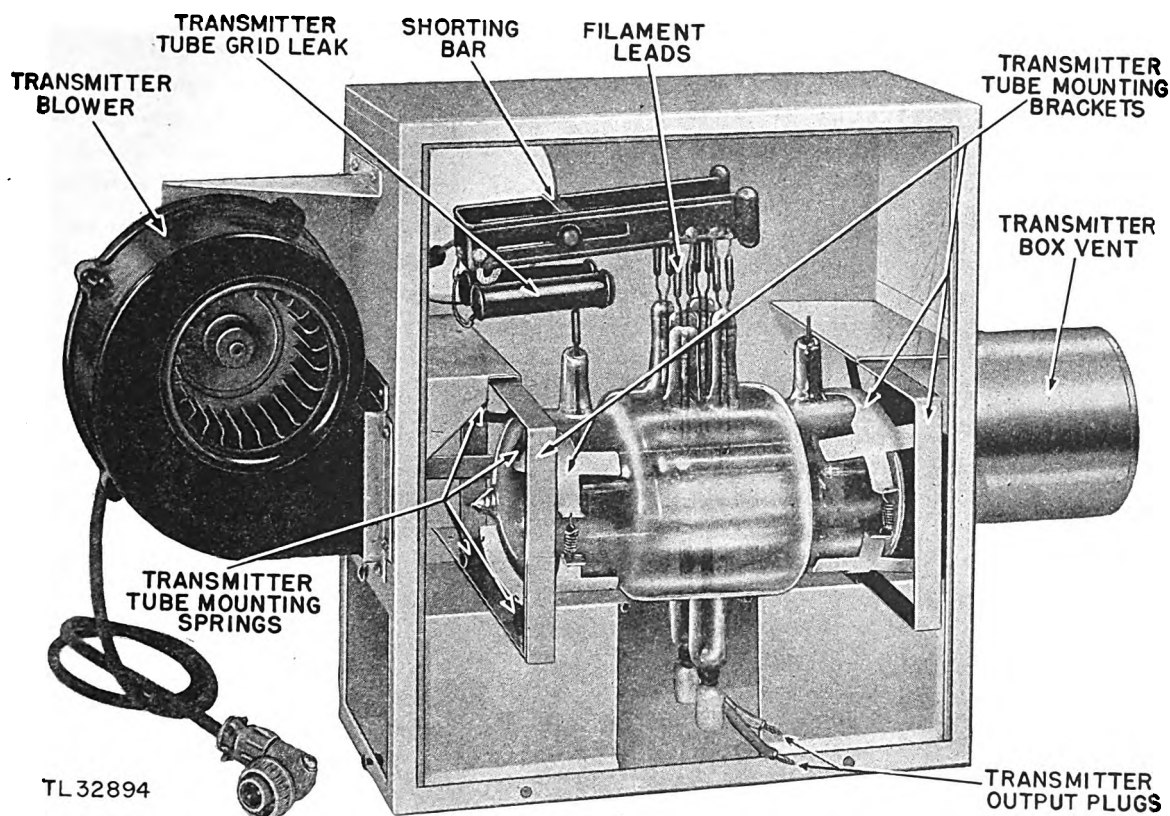

Figure 15. Transmitter tube assembly, cover removed.
c. The transmitter tube (fig. 15), a specially designed, high-frequency, oscillator tube, has its output connected to a stub-supported, coaxial transmission line equipped with stub tuners (fig. 11). A T-R box and anti T-R spark gap prevent transmitted energy from entering the receiver and reflected energy from being dissipated in the transmitter. A rotary joint in the coaxial transmission line makes possible the rotation of the half-wave length, dipole antenna used as the radiator. A quarter-wave transformer matches the impedance of the transmission line to that of the antenna.
(2) The spark gap discharges the pulse-forming line three times per revolution, or 12,000 times per minute. This establishes a pulse repetition rate of 200 times per second. The pulse line attains a maximum charge before the spark gap is in position to fire again, 5,000 microseconds later.
a. The transmitter tube is a special push-pull dual triode oscillator (figs. 15 and 16). Resonant lines inside the tube envelope function as tuned circuits. Two connections at zero r-f potential points on the resonant grid line are brought out of the envelope. One is used for returning the grid circuit to the filaments through the self-biasing resistor mounted underneath the tuned filament line. The other is not used. The plate connections are brought out of the envelope and fed into the transmitter coupler. The frequency of oscillation may be changed by adjusting the shorting bar on the filament line. Shortening the line will increase the output frequency; increasing the length of line will decrease the output frequency.